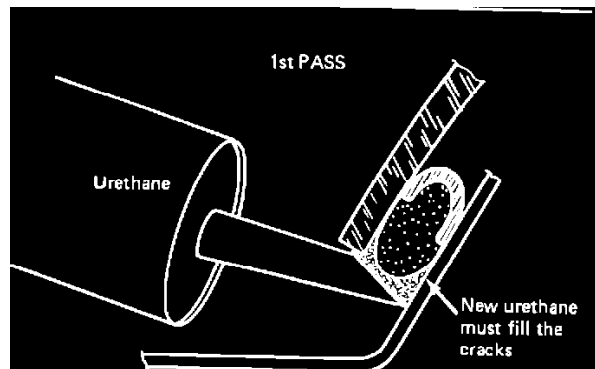

FIGURE 8
11. After the windshield is in place, apply additional urethane adhesive along the windshield bottom edge making sure that it fills the cracks around the original adhesive (Figure 8).